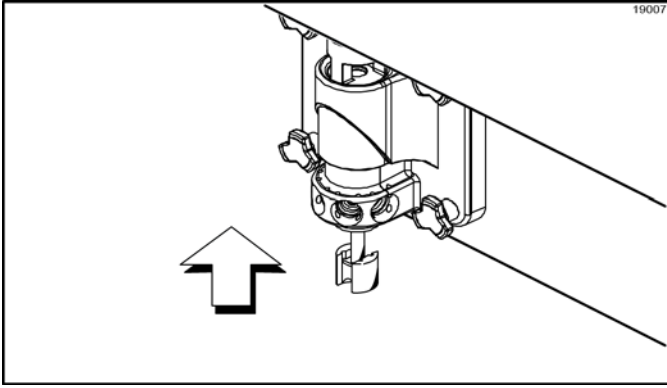

Figure 6-15
15. Insert the spinner blade shaft into the center of the driven spinner and through the draw valve cavity until the shaft appears at the top of the draw valve. The spinner blade must be aligned and engaged to the driven spinner at the bottom. This allows the spinner shaft to be raised high enough to be engaged into the spinner coupling at the top. (See Figure 6-15.)